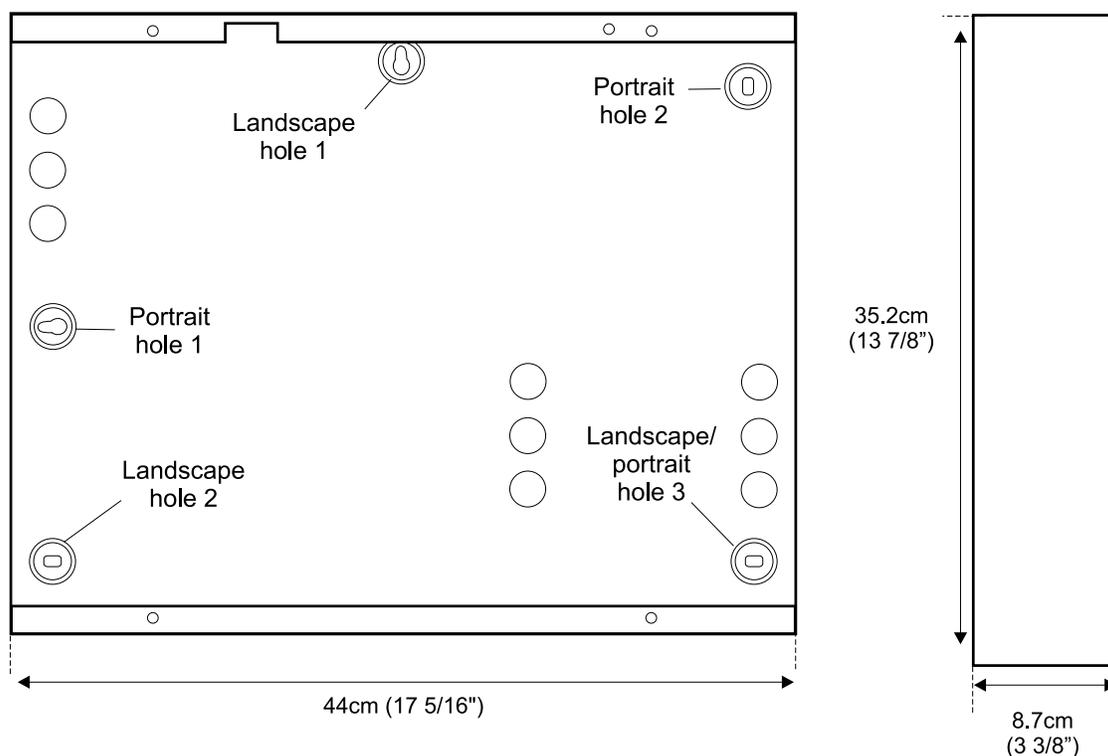

Figure 2-1 - Cabinet Mounting Holes and Dimensions
- Check that suitable space is available to accommodate the cabinet. Figure 2-1 shows the dimensions of the cabinet.
The cabinet can be mounted on the wall using the three mounting holes shown in Figure 2-1. You can mount the cabinet in either "landscape" or "portrait" orientation, as required. It is recommended that you always mount a 2DC in portrait orientation, otherwise you will need to remove the 2DC board to gain access to the upper mounting hole.